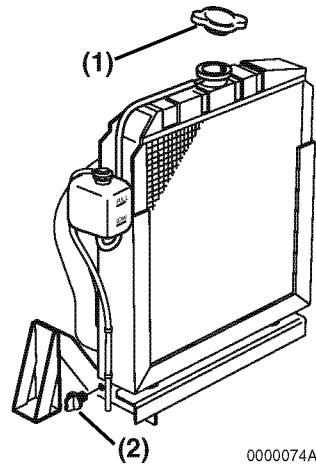

Figure 5-16
2. Remove the radiator cap (**Figure 5-16, (1)**).
3. Remove the drain plug or open the drain cock (**Figure 5-16, (2)**) at the lower portion of the radiator and drain the engine coolant.